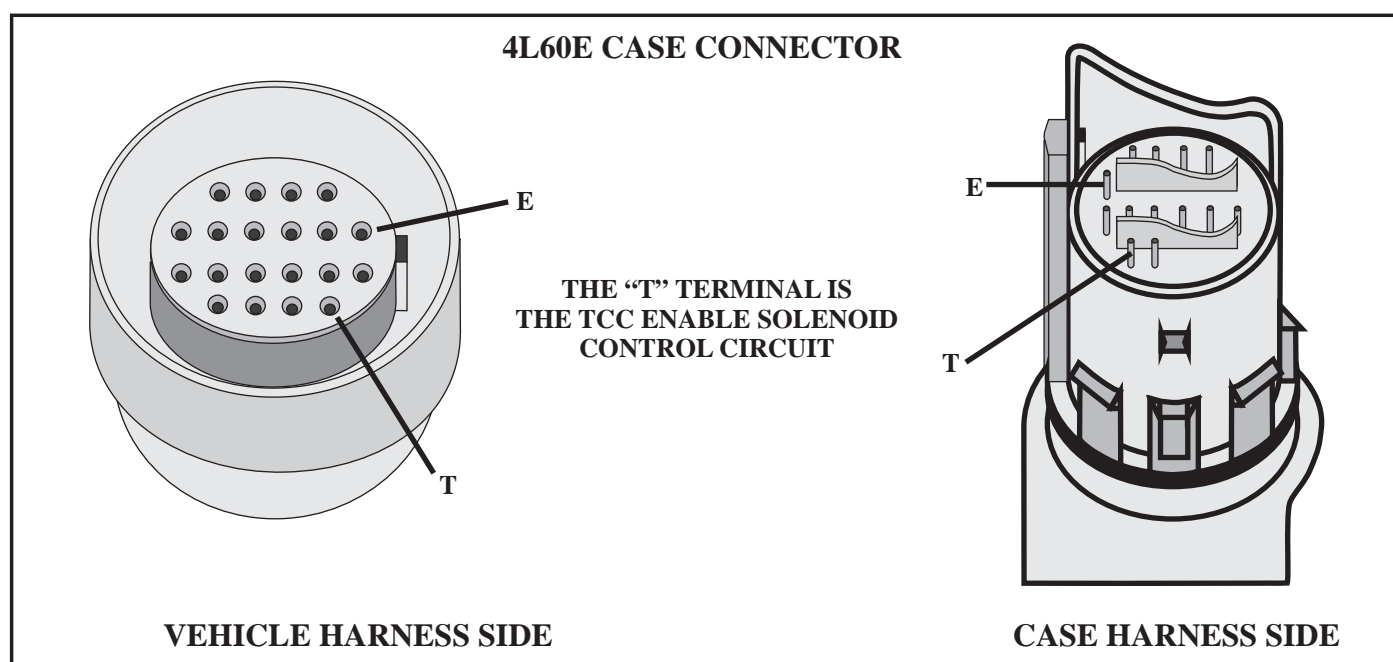

Figure 109
- A faulty ignition switch, Causing intermittent power loss to case connector terminal “E”, See Figure 109 for terminal “E” location. (Other solenoid codes should be stored, use relay harness to bypass ignition switch as shown in Code 81,82, P0753 & P0758 diagnostics.
- Damaged terminal ends, Refer to Code 81,82, P0753 & P0758 diagnostics on how to check terminal cavities, See Figure 109 for terminal “T” location.